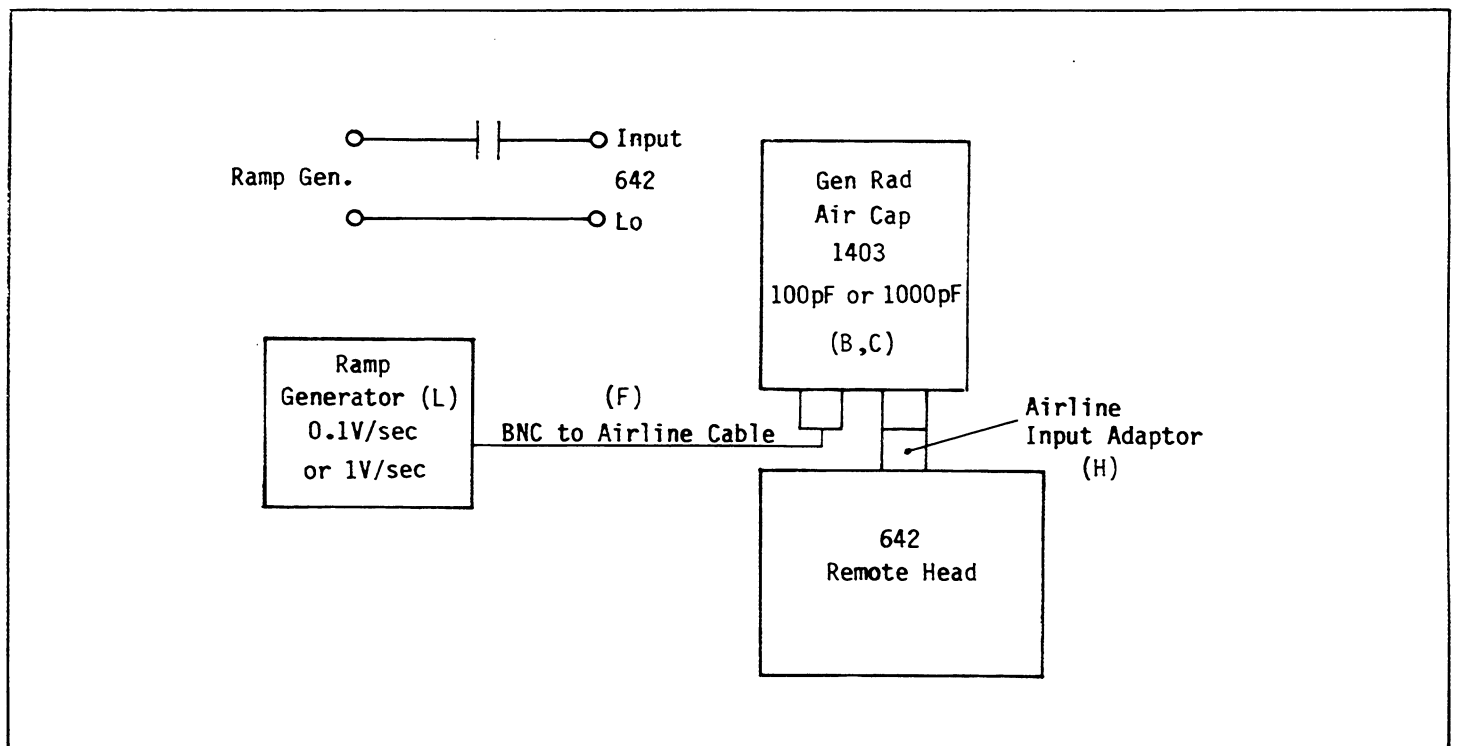

FIGURE 6-2. 10⁻⁹, 10⁻¹⁰, and 10⁻¹¹A Current Sources Circuitry
b. Figure 6-2 shows how the ramp generator and capacitors should be connected to the 642.